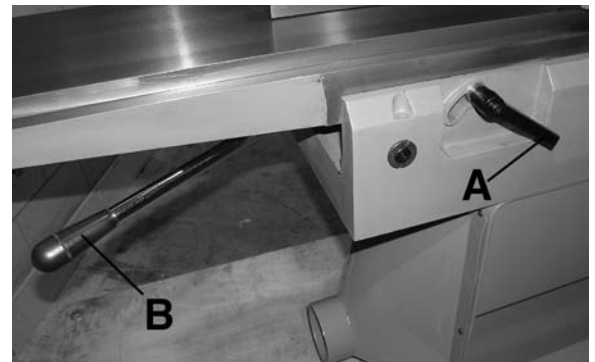
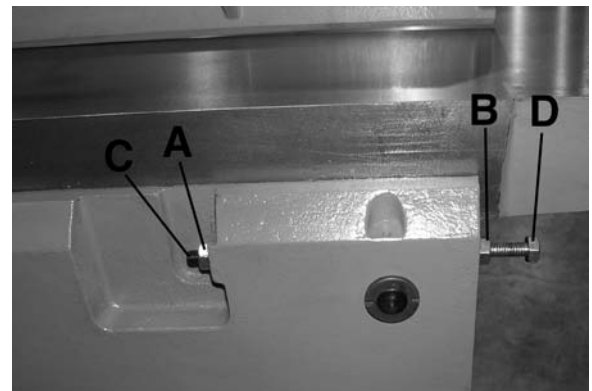

FIGURE 14
FIGURE 15
For most jointing operations the outfeed table must be exactly level with the knives at their highest point of revolution. To move the outfeed table, loosen lockhandle (A) Fig. 14, and move the table raising and lowering hand lever (B) up or down until the table is level with the knives. It may be necessary to adjust the positive stops. Loosen the two locknuts (A) and (B) Fig. 15, and the two adjusting bolts (C) and (D) when moving the table up or down.
When the table is exactly level with the knives at the highest point of revolution, tighten lockhandle (A) Fig. 14, and turn adjusting bolt (C) Fig. 15, until it bottoms; then tighten locknut (A). Bolt (D) is also a positive stop for the lower limit of the outfeed table. We suggest that this stop also be tightened when the outfeed table is set level with the knives. This will prevent the outfeed table from accidentally being lowered.